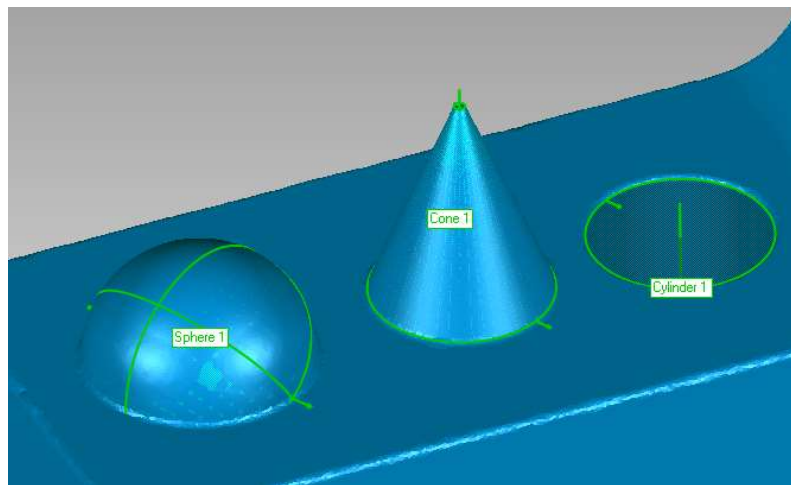

Figure 63
- You now have three features as shown in **Figure 63**. Observe the features in the **Model Manager Panel**.